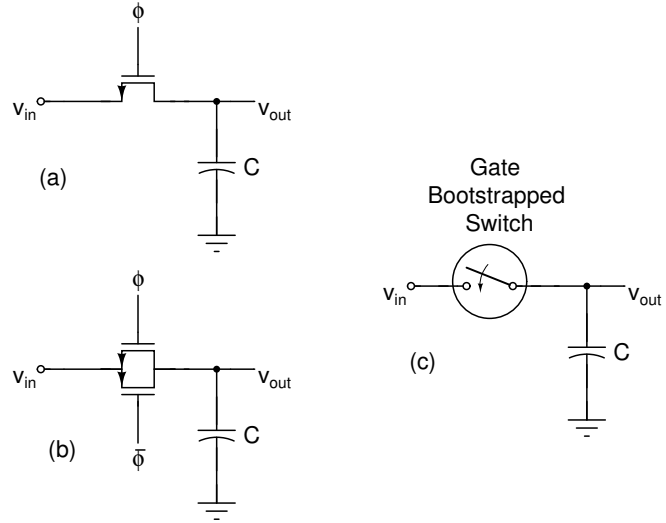

Figure 1: Circuits for Problem 3.
- b. Choose the device sizes. For the arrangement of Figure 1(c), you may use an “ideal” clock generator - that is one generated using pulse sources.